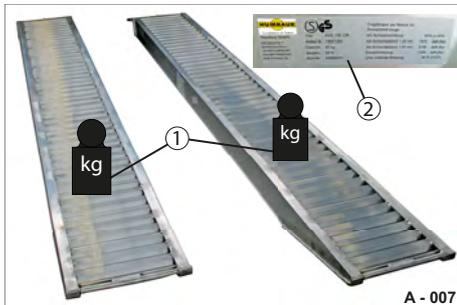

Fig. 11 Checking ramp planks
- ▶ Make sure that the vehicle to be loaded does not exceed the max. load bearing capacity (Fig. 11/1) of the ramp planks.
- ▶ Compare the max. values on the nameplate (Fig. 11/2) of the ramp planks.